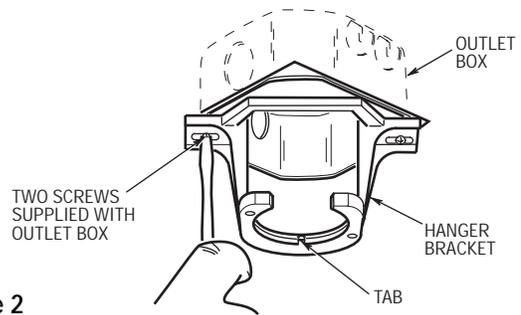
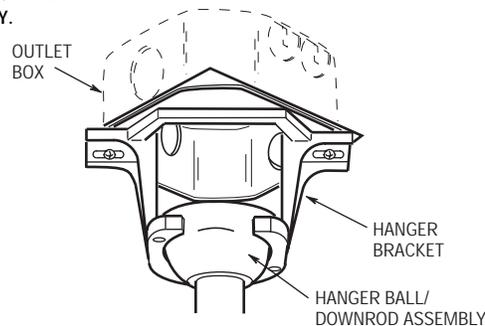

Figure 2
Figure 3
- 1. Securely attach the hanger bracket to the outlet box using the two screws supplied with the outlet box. (Figure 2).
- 2. Carefully lift the fan and seat the hanger ball/downrod assembly on the hanger bracket that was just attached to the outlet box (Figure 3). Be sure the groove in the ball is lined up with tab on the hanger bracket (Figure 2).